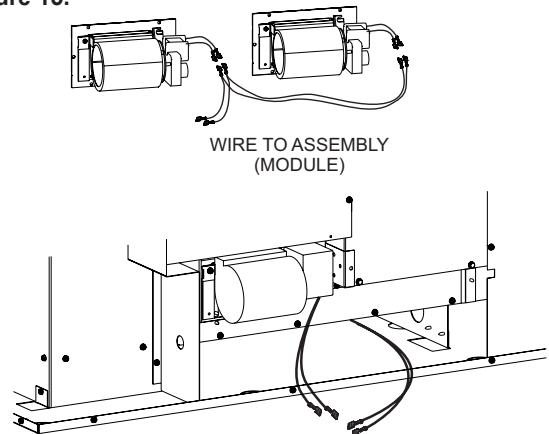

Figure 15
7. Remove protective connectors on Wire Assembly from fireplace and discard. Connect Wire Harness to both blowers and the other end to the Wire Assembly supplied with the fireplace. See Figure 15.